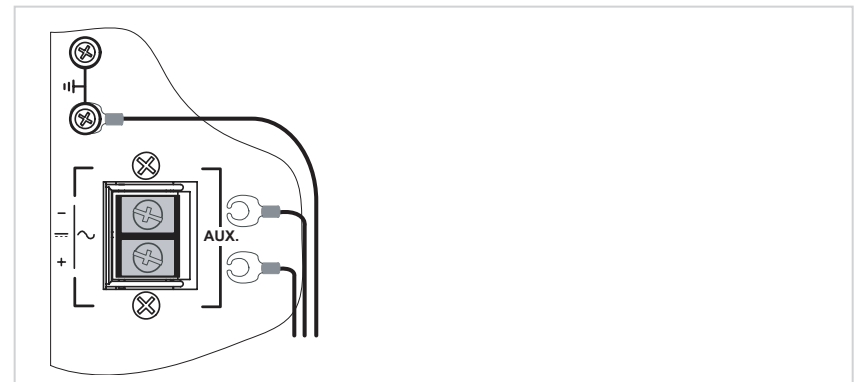

Figure 6: Auxiliary Power Connection
To provide auxiliary power to the industrial switch, view Figure 6 and do the following:
2. Loosen the grounding screw and connect the power source functional-ground lead to the ground screw, as shown in Figure 6. Tighten the screw to secure.
3. Loosen the TB screw marked “-” and then connect the power source neutral or (-) negative lead to the TB negative terminal, as shown in Figure 6. Tighten the screw to secure.
4. Loosen the TB screw marked “+” and then connect the power source line phase or positive (+) lead to the TB positive terminal, as shown in Figure 6. Tighten the screw to secure.